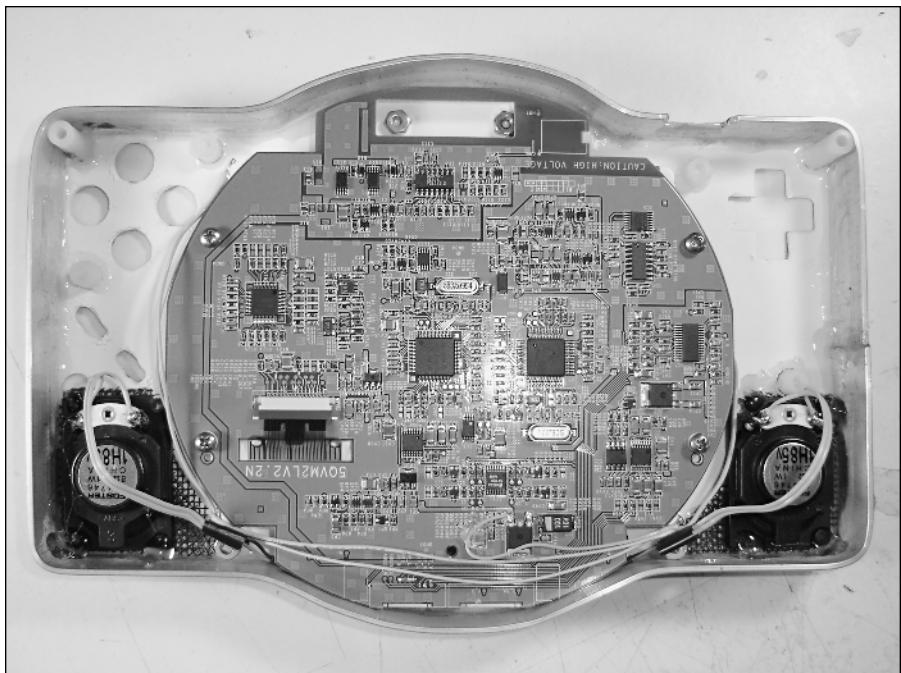

FIGURE 10-21: The PSOne screen inserted into the front of the case.
5. Carefully set the screen into the front of the case as seen in Figure 10-21. Then use four 3/8"-long size-4 screws to secure it to the four nuts around the screen hole.